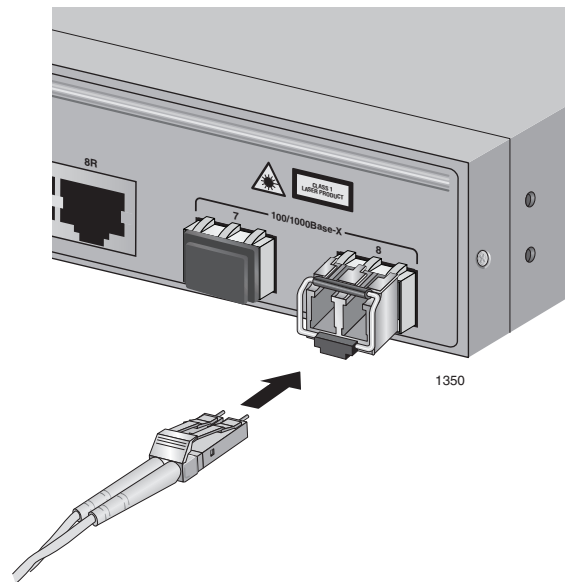

Figure 17. Inserting the Fiber Optic Cable
7. Insert the fiber optic cable into the SFP transceiver. See Figure 17.